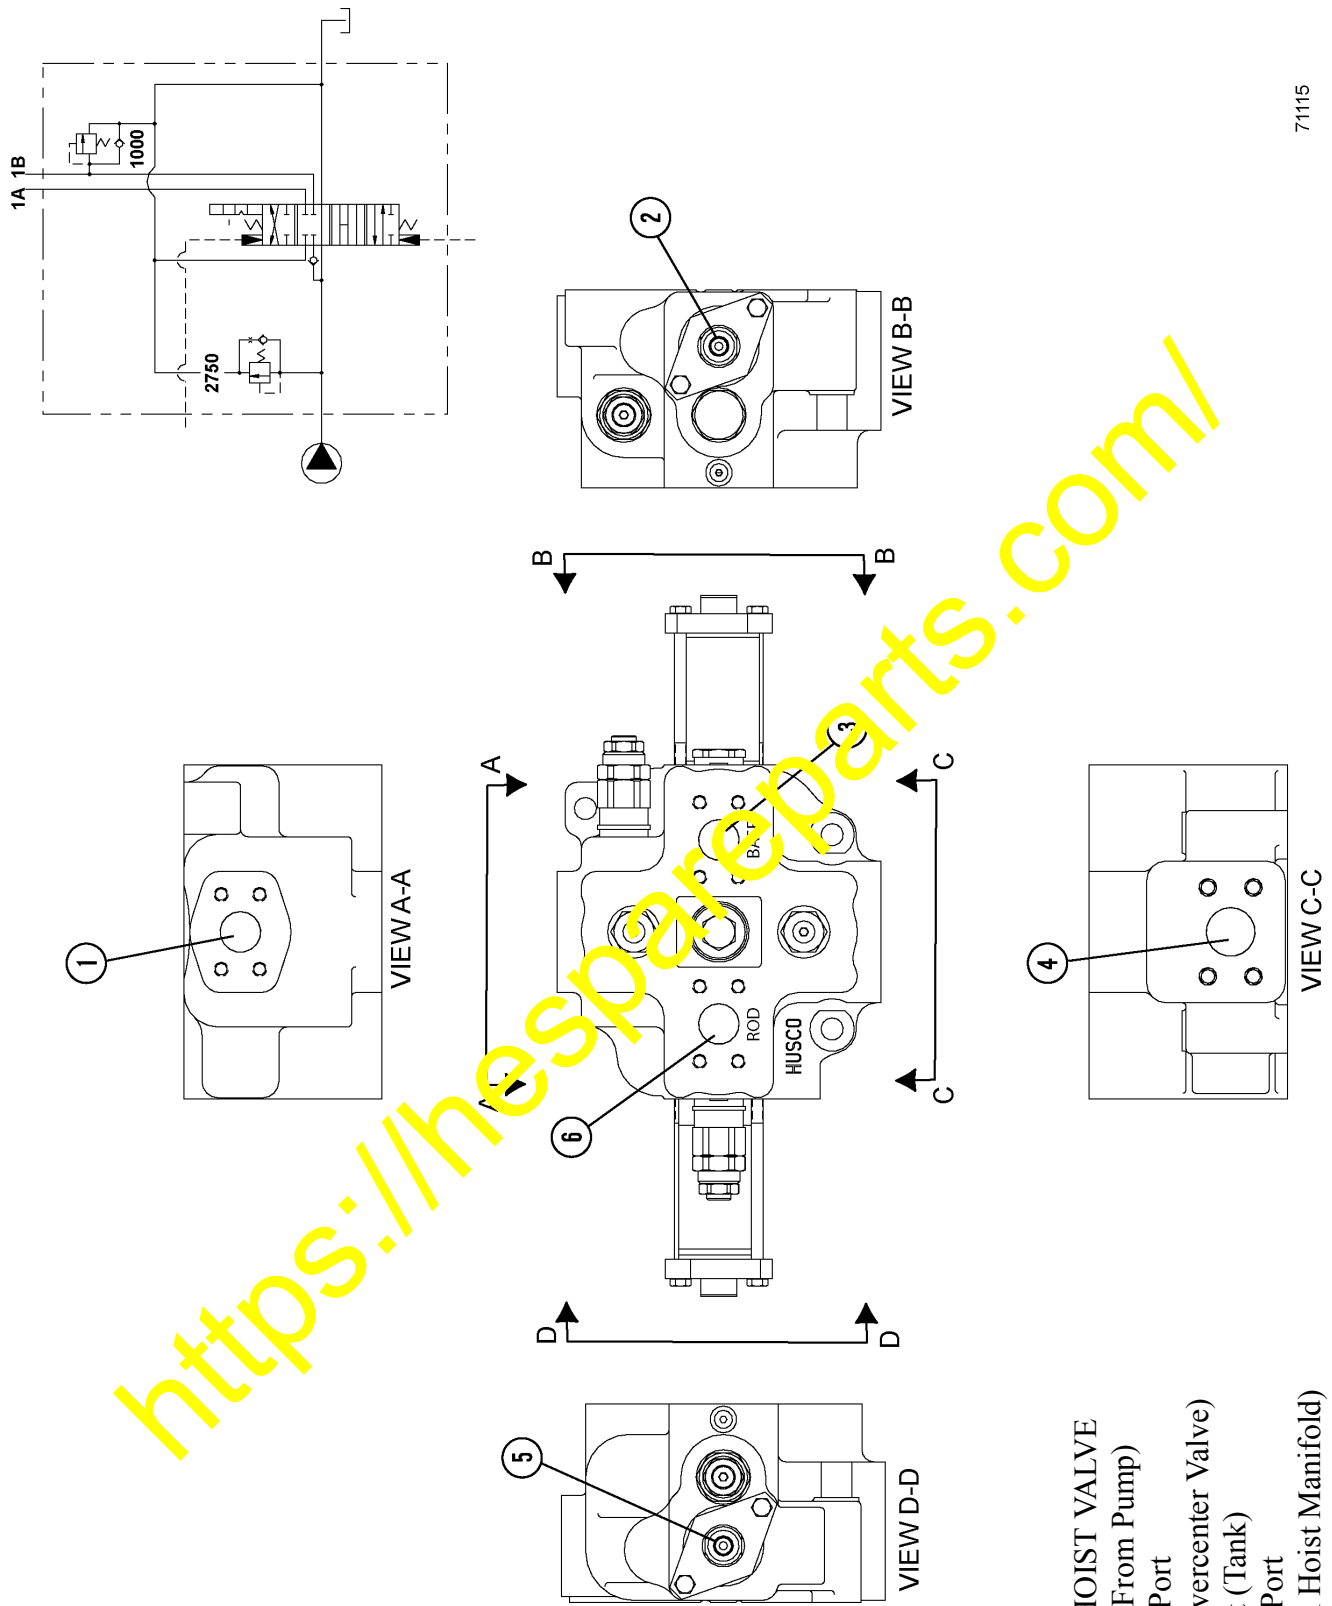

FIGURE 1. HOIST VALVE
3. Prepare the new hoist valve by installing the fittings in the hoist pilot line ports on each side of the valve. Install straight fitting (WB0576) into pilot port (2, Figure 1), and elbow fitting (WB0501) into pilot port (5).
4. Install new elbow flange (PB7947) and a new O-ring (343909R1) onto inlet port (1). Connect the flange using split flange clamps (TF3237), capscrews (C1609) and lockwashers (C5775). Tighten the clamp capscrews to standard torque.
7. Remove the existing port (3) hose (HA6719) from the overcenter valve. Install new hose (XA2667) and two new O-rings (343909R1) in its place. Connect the hose to the overcenter valve. Connect the opposite end of the hose to the hoist valve using split flange clamps (TF3237), capscrews (C1609) and lockwashers (C5775). Tighten the clamp capscrews to standard torque.
8. Remove the existing outlet port (4) hose (HA6714) from the hydraulic tank filter tube. Install new hose (XA2666) and two new O-rings (VG9095) in place of the existing hose. Connect the hose to the fitting at the filter tube. Connect the opposite end of the hose to the hoist valve using split flange clamps (TF8090), capscrews (C1614) and lockwashers (C1540). Tighten the clamp capscrews to standard torque.
9. Connect the existing hose from the hoist cylinder manifold to port (6) on the hoist valve. Install new O-ring (343909R1) onto the hose. Connect the hose to the hoist valve using split flange clamps (TF3237), capscrews (C1609) and lockwashers (C5775). Tighten the clamp capscrews to standard torque.